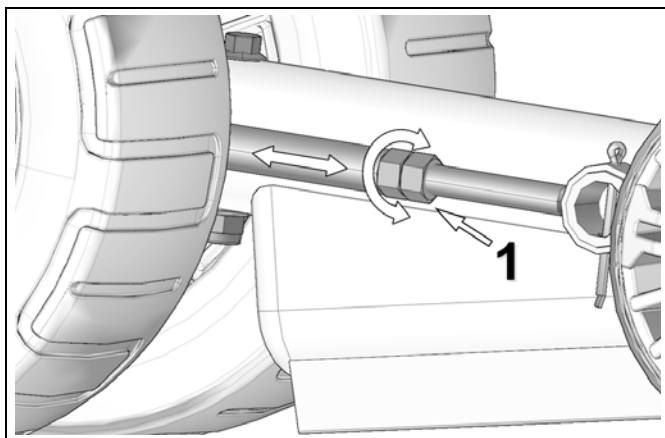

Figure 28
Loosen jam nut (1) and turn adjusting nut to set track tension. See Figure 28.